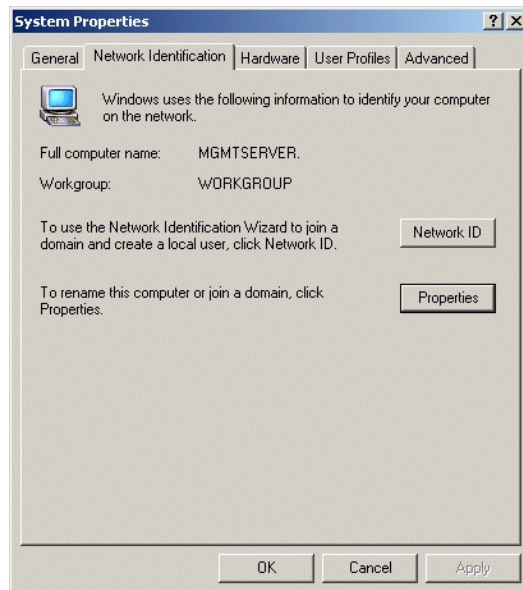

Figure D-9 System Properties Dialog Box (Network Identification Tab)
- d. Click the *Network Identification* tab. The *System Properties* dialog box displays with the *Network Identification* tab selected (Figure D-9).